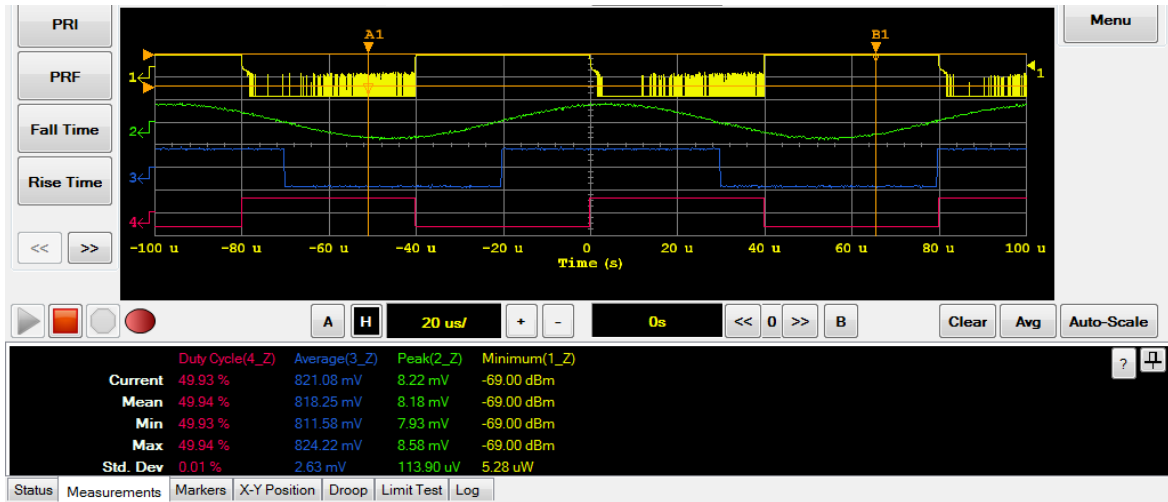

Figure 2-79 Measurement view in zoom display layout
- 2 A rectangle frame is displayed at the main graph window to indicate the area that is magnified as shown in Figure 2-79. The magnified section of the waveform is displayed below the main graph.
- 4 The Measurement view on the multi-purpose pane will display the measurement results of the magnified section of the waveform as shown in Figure 2-79.